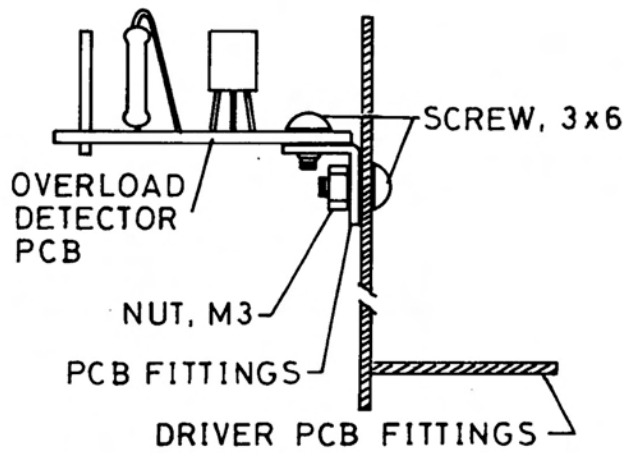

Fig.B-2
- c) To attach the new Overload Detector PC Board to conventional units (with serial nos. up to NB80099, it is necessary to drill a hole in the Driver PC Board fitting plate. The following parts are necessary to attach the new PC board. See Fig. B-2 for mounting position.
- 2) Attach the Overload Detector PC Board to the Driver PC Board fitting plate as shown in Fig. B-2.